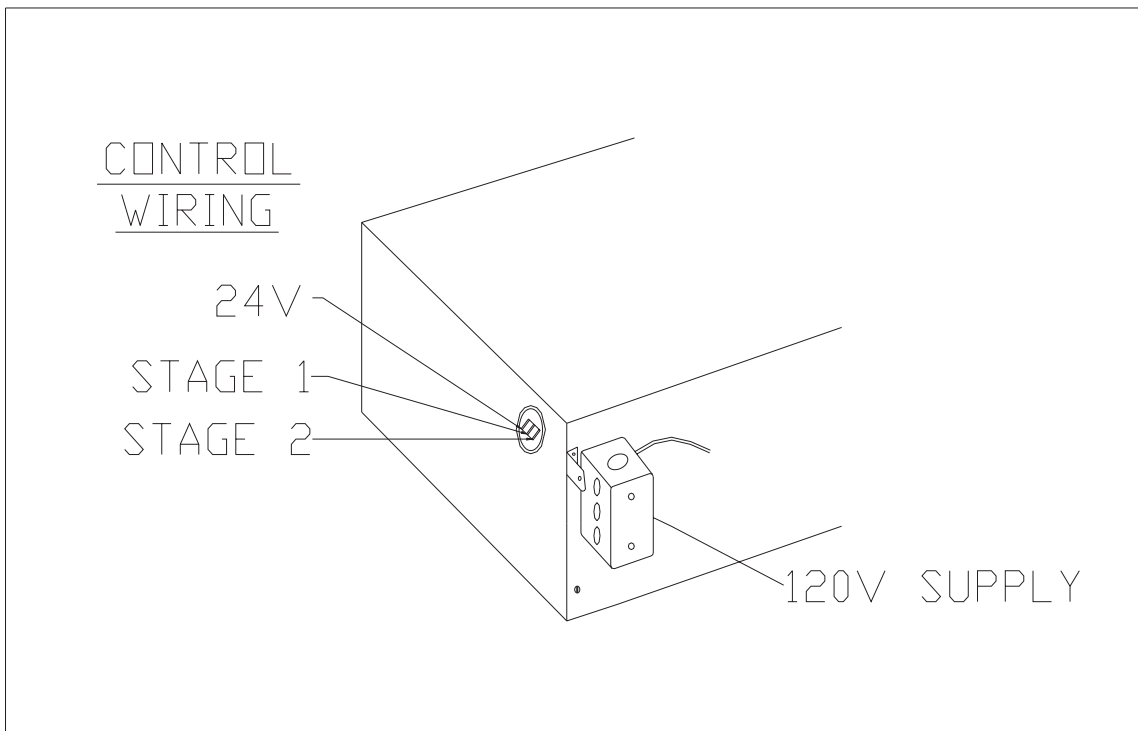

Figure 2.13.1
- 24 volt terminal from the heater to the thermostat terminal (R).
- See Figure 2.13.1.
When utilizing a thermostat that requires a constant 24 volt power supply such as the HL 201 or other programmable thermostat, a fourth wire will be required. Attach this wire to heater chassis. See Figure 2.13.1.